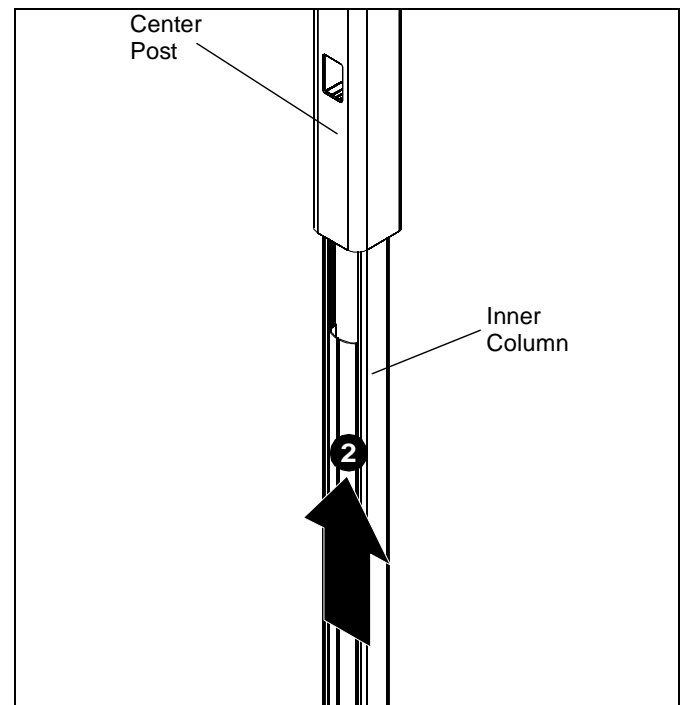

Figure 7
2. Re-install the inner column into the center post by sliding the inner column up from the bottom of the center post. (See Figure 7)